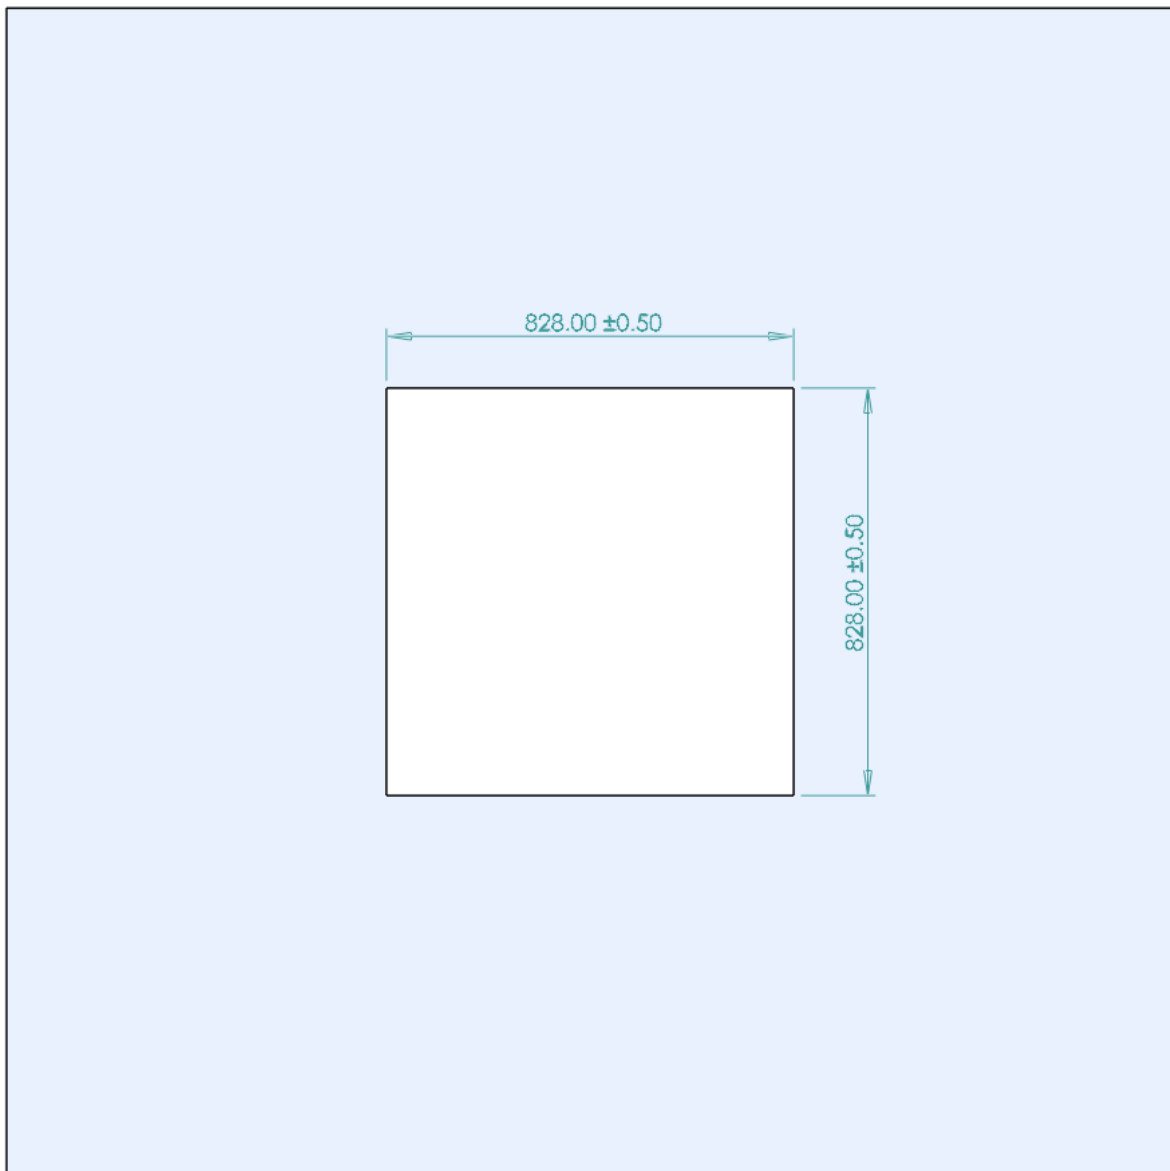

Figure 32 – Dimensions of roof opening.
1. Create roof opening of minimum 828mm x 828mm (*on the horizontal* - see figure 32).